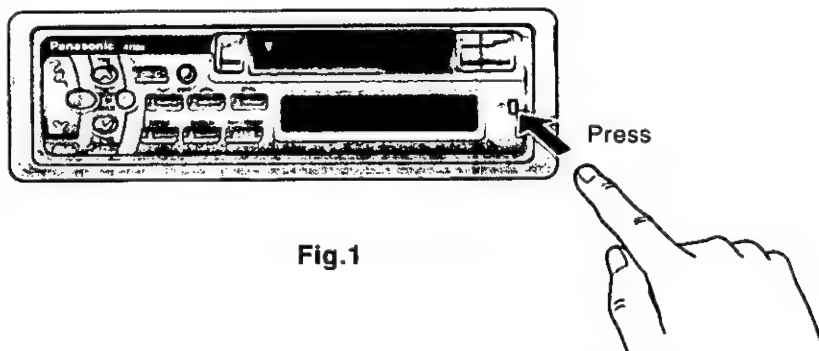

Fig.1
- b) Pull out the unit while pushing two lock levers using Dismounting plate ⑧ in the following order. (Fig.1, 2).